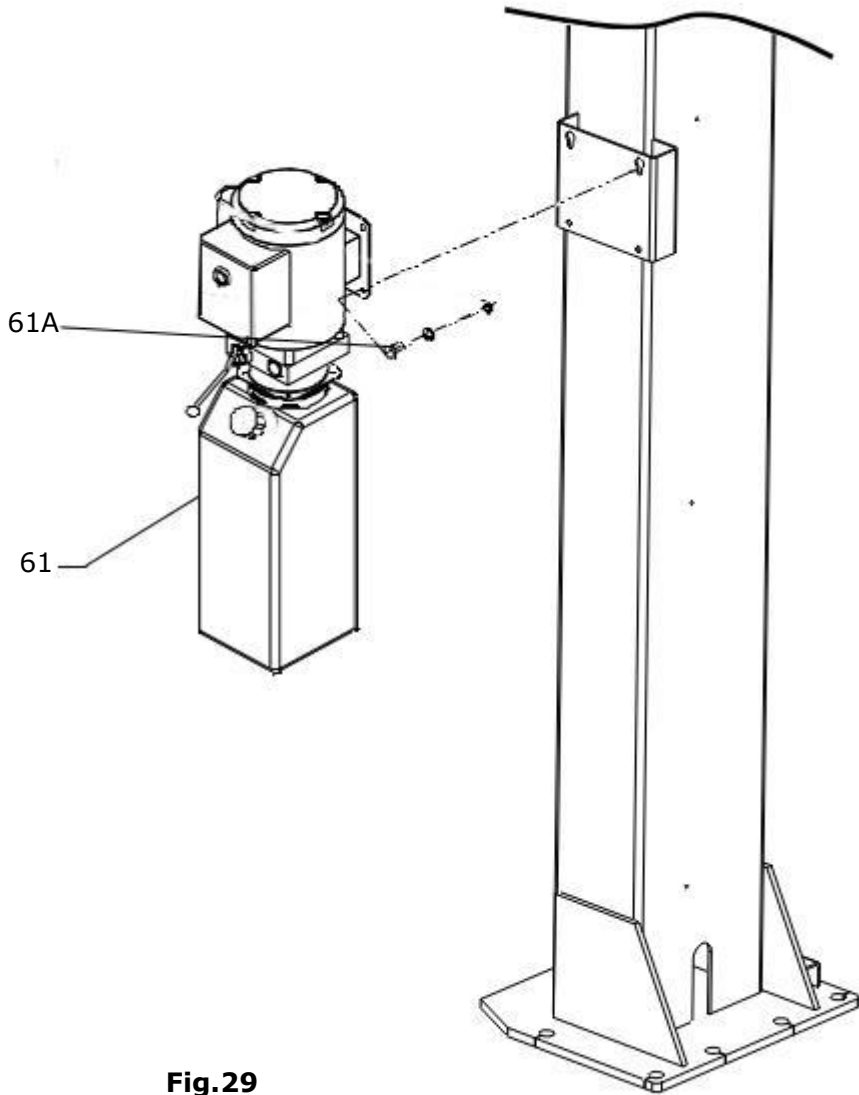

Fig.29
K. Install power unit (See Fig. 29)